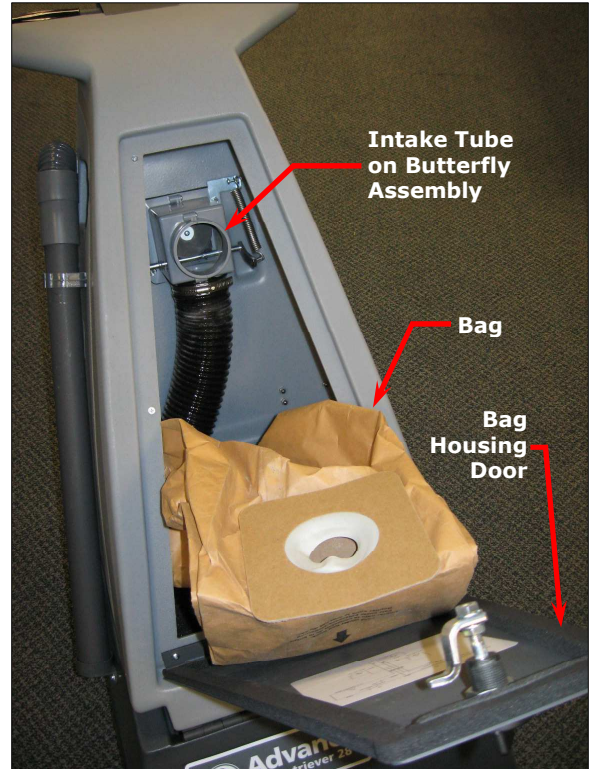

Figure 2 – Bag Disconnected from Intake Tube
1. See Figure 2. Open the **Bag Housing Door** and disconnect the **Bag** from the **Intake Tube** on the **Butterfly Assembly**.
3. See Figure 2. Reinstall the **Bag** onto the **Intake Tube** on the **Butterfly Assembly**, then close and latch the **Bag Housing Door**.